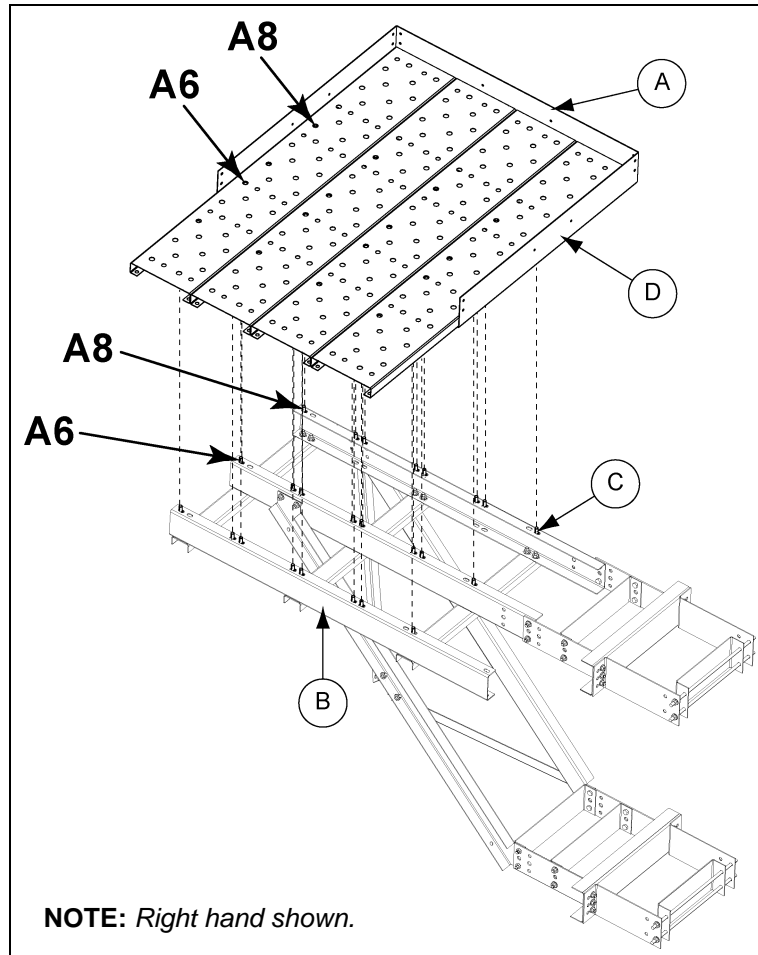

Figure 10H
2. Install platform decking weldment to the platform support channels using twenty four (24) 1/2" x 1" bolt and nuts. *(See Figure 10H.)*